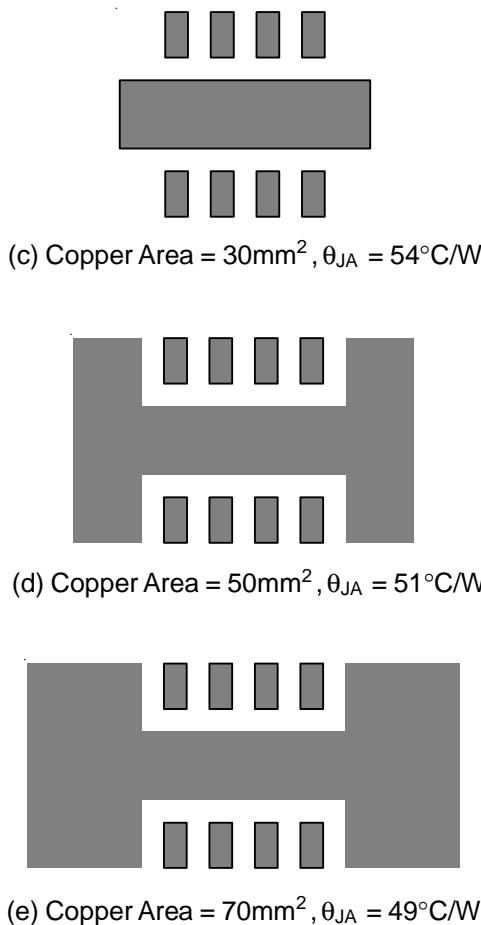

Figure 6. Thermal Resistance vs. Copper Area Layout Design
As shown in Figure 6, the amount of copper area to which the SOP-8 (Exposed Pad) is mounted affects thermal performance. When mounted to the standard SOP-8 (Exposed Pad) pad (Figure 6.a), θ_{JA} is 75°C/W. Adding copper area of pad under the SOP-8 (Exposed Pad) (Figure
6.b) reduces the θ_{JA} to 64°C/W. Even further, increasing the copper area of pad to 70mm² (Figure 6.e) reduces the θ_{JA} to 49°C/W.